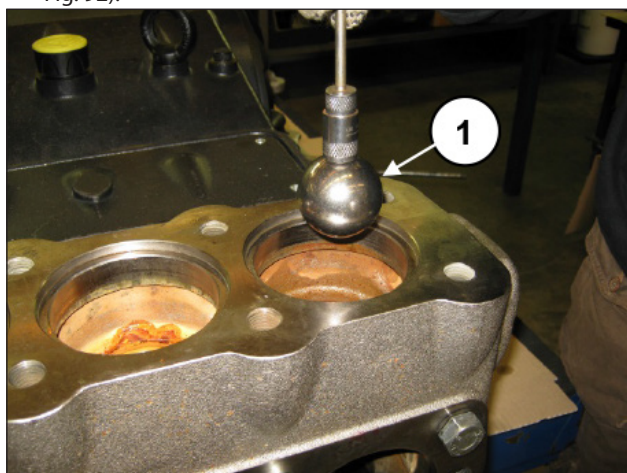

Fig. 92
- D) Remove the balls using a magnet or other tool (pos. ①, Fig. 92).